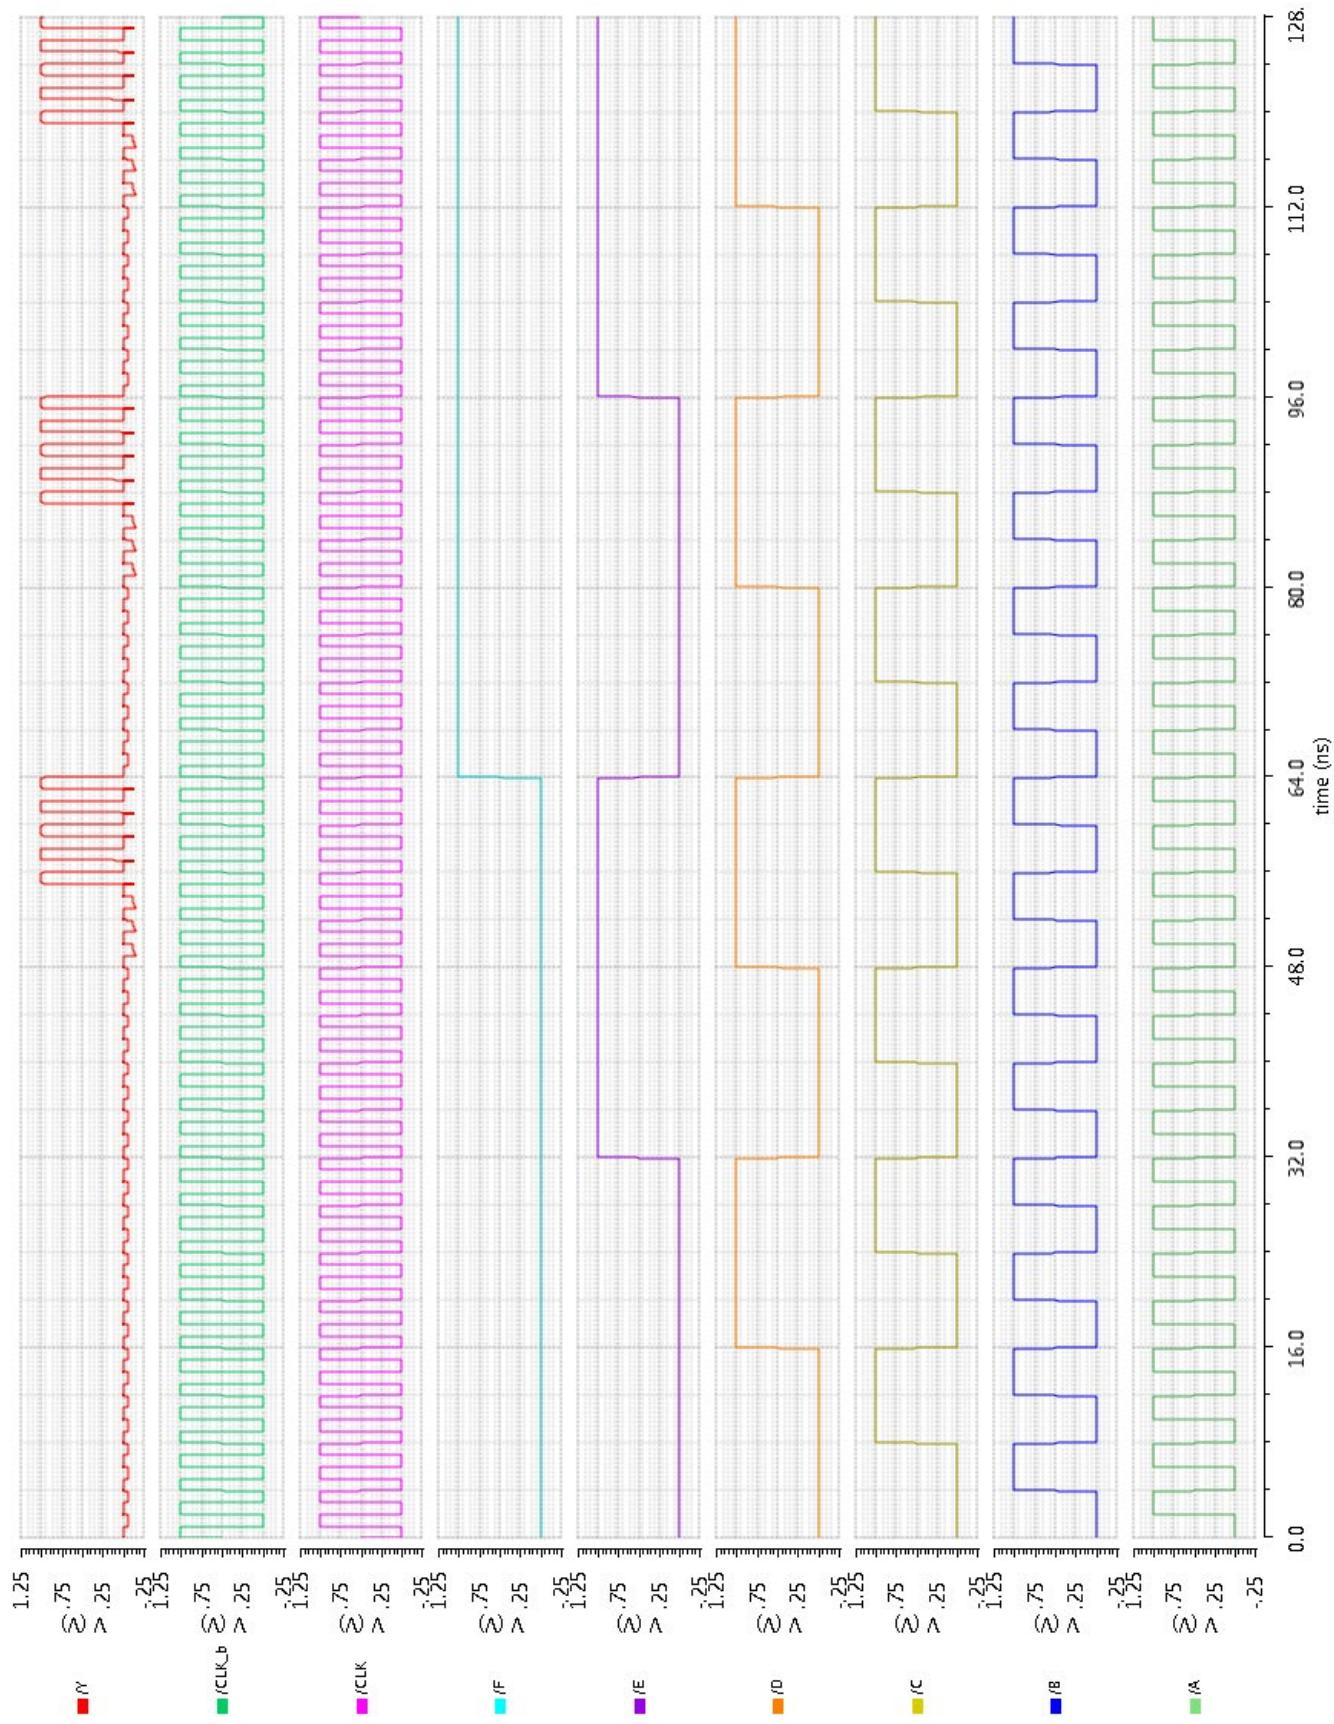

Figure 22: Expected waveforms of the simulation (in your case at  $VDD=1.2V$ )
**Step 3:** Create a simulation schematic and make necessary adjustments to observe the same waveform of Figure 22.